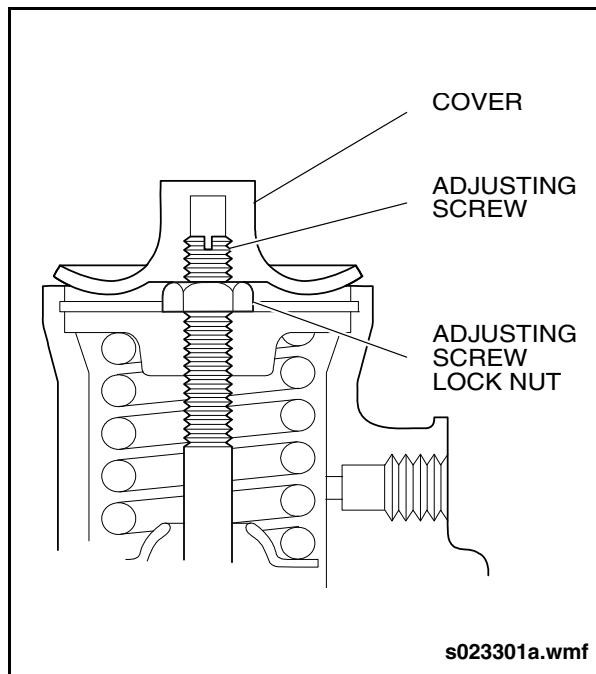

Fig. 8-5: Governor Adjustment
2. To adjust the D-2 Governor build up reservoir pressure and note at what pressure the governor cuts out. If the cut-out pressure is below the desired pressure, remove the cover, loosen the adjusting screw nut and with a screw driver turn the adjusting screw counter-clockwise until the governor cuts out at the desired pressure. If the cut-out pressure is higher than desired the adjusting screw should be turned clockwise to lower the pressure. After setting the cut-out pressure it is important that the adjusting nut be tightened. See "Fig. 8-5: Governor Adjustment" on page 31.